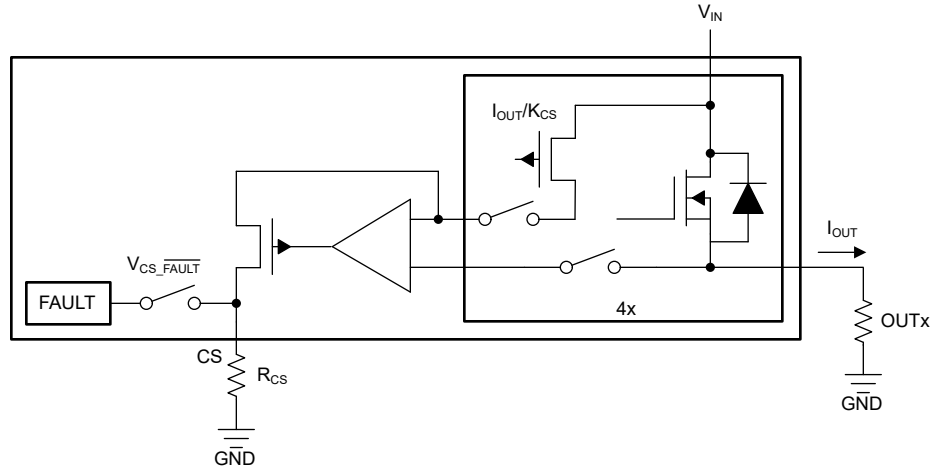

图 8-2. Current-Sense Block Diagram
K_{CS} is the ratio of the output current and the sense current (CS). It is a constant value across the temperature and supply voltage (IN). Each device is calibrated accurately during production, so post-calibration is not required. See 图 8-2 for more details.